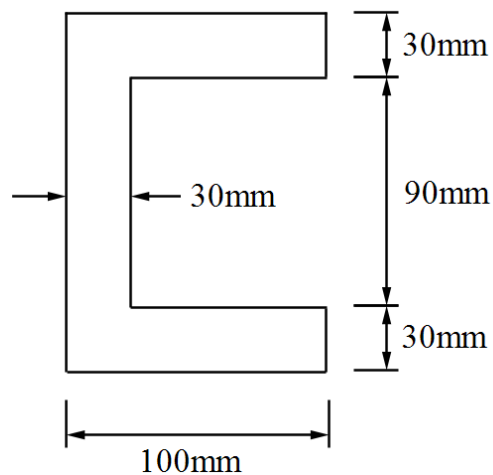

Figure B3(a) / Rajah B3(a)
- (a) A simply supported beam as shown in **Figure B3(a)** is subjected to a shear force of 70kN. If the second moment of area of the section is $23.87 \times 10^6 \text{ mm}^4$, calculate the shear stress distribution for the beam section.